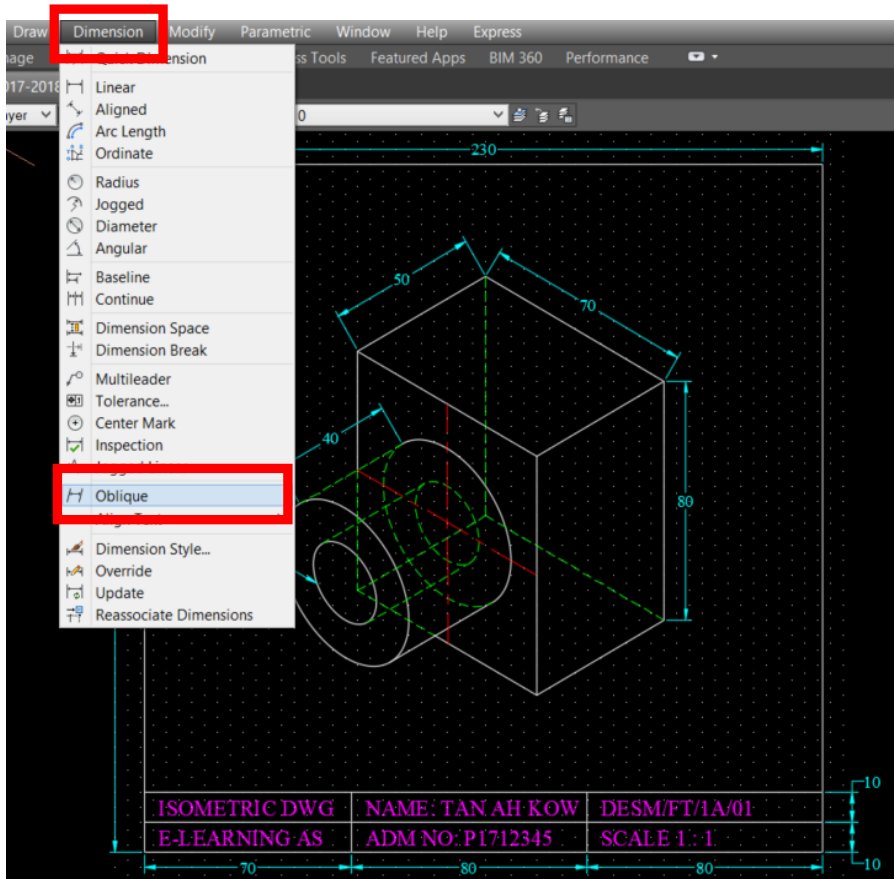

FIG 15
16. Next, use Dimension Oblique to align the 4 dimensions in proper directions as shown below (FIG 15):